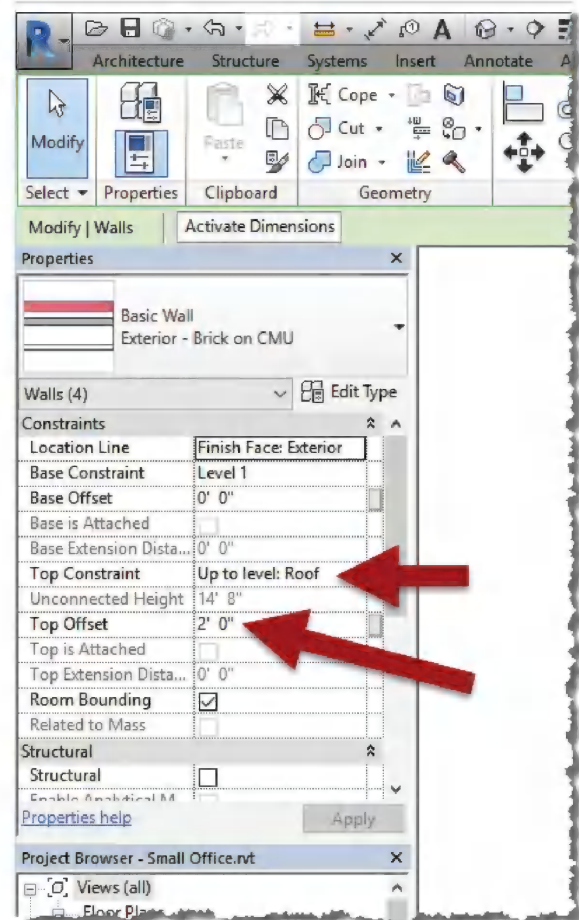

Figure 2-4.2B Selected wall properties
- Click **Apply** (Figure 2-4.2B).